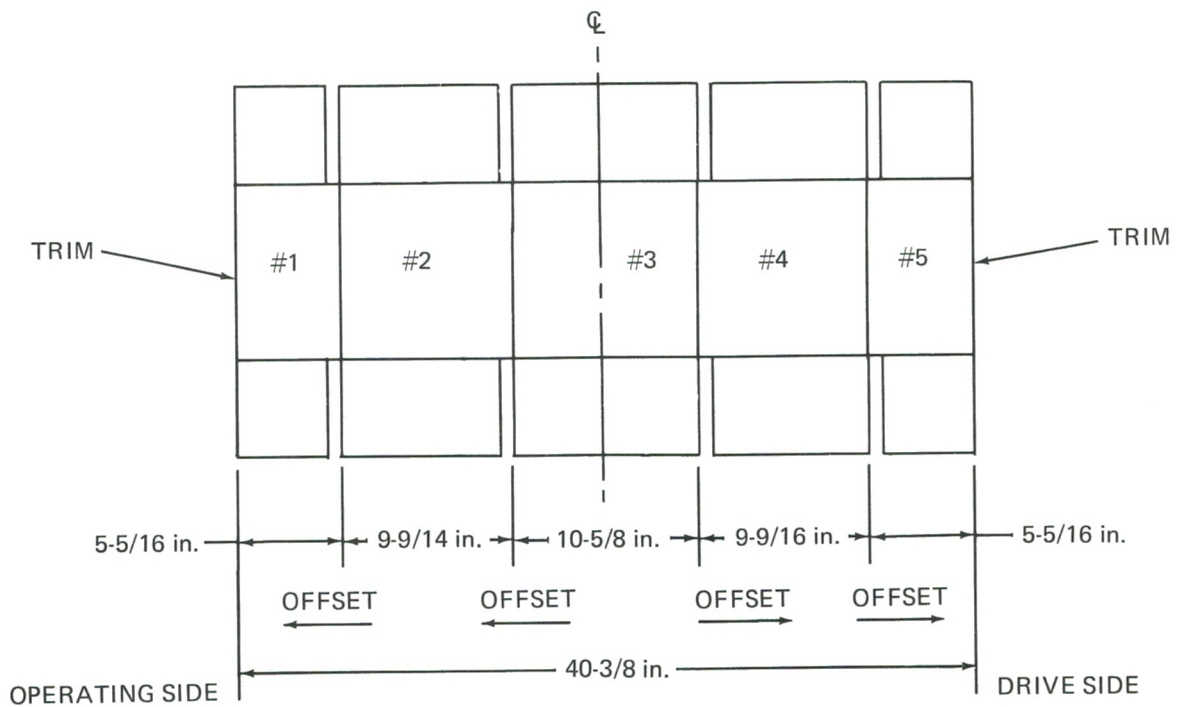

FIGURE 9-8. TYPICAL 5-PANEL BOX
3. ADJUSTING CREASER-SLOTTER FOR 5-PANEL BOXES (Figure 9-8)